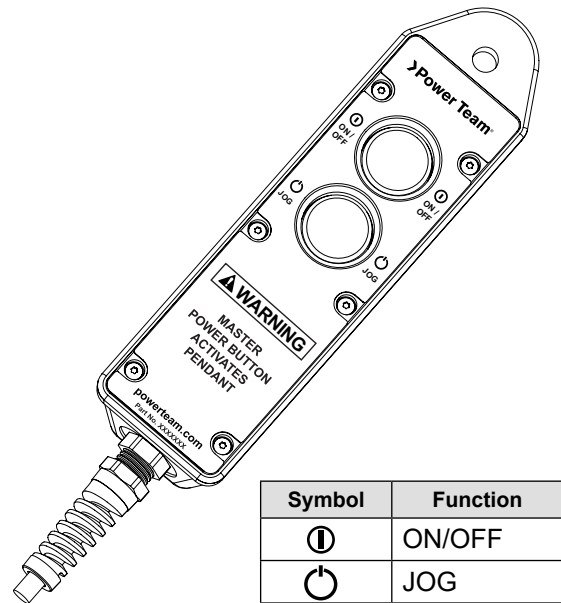

Fig. 5. Two Button Hand Pendant Controller
- F. See Figure 5. Two button hand pendant controller.